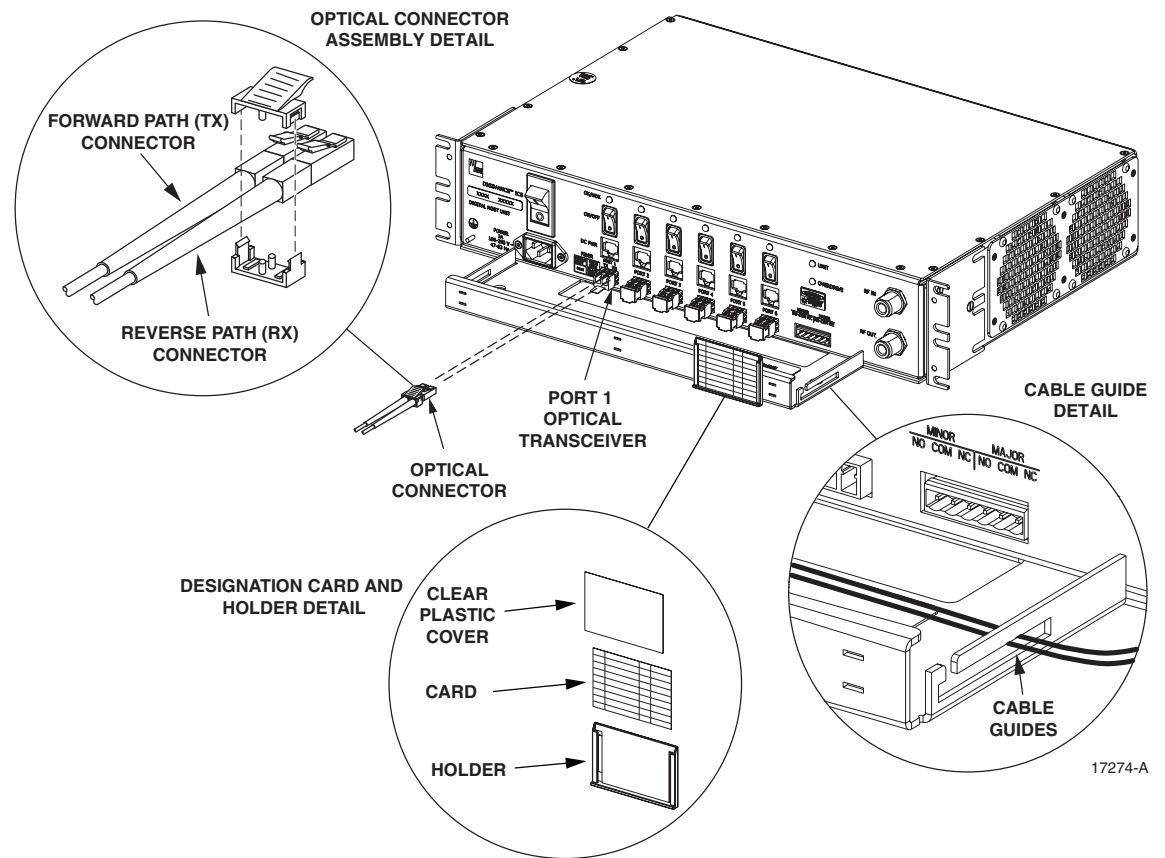

Figure 20. Ports 1–6 Fiber Optic Cable Connections
3. Terminate each optical fiber with a field-installable LC type fiber optic connector as shown in Figure 20. Follow the instructions provided by the connector manufacturer for installing the connector.
6. Use the plastic joiner provided with the LC connectors to join the DHU Port 1 forward and reverse path connectors together (see Figure 20). Make sure the **forward path** and **reverse path** connectors are oriented as shown.
8. Clean each connector (follow connector supplier's recommendations) and then insert the optical fiber connector pair into DHU optical port 1 (see Figure 20).
9. Place the optical fibers within the cable guides provided on the cable management tray (see Figure 20) and then dress and secure the fibers at the DHU per standard industry practice.
11. Use the designation card provided (see Figure 20) to indicate the location and name of the DRU or DEU that is connected to each optical fiber pair. The designation card holder may be attached to any convenient flat surface such as the DHU cable management tray